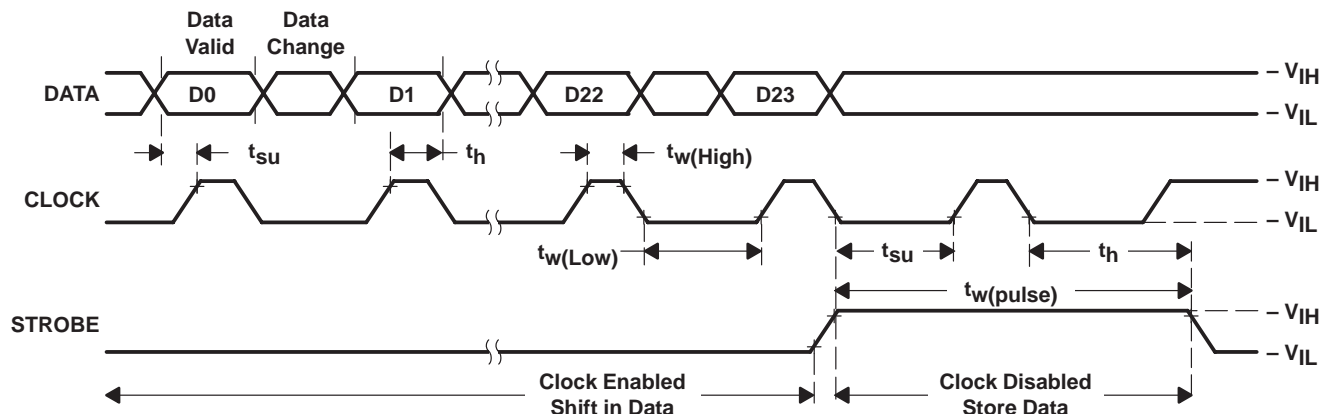

Figure 1. TRF1020 Timing Relationships
**serial interface timing requirements with  $V_{DDP} = V_{DDA} \geq 2.75 \text{ V}$  and  $\leq 3.5 \text{ V}$ ,  $T_A = 25^\circ\text{C}$  (see Figure 1)**